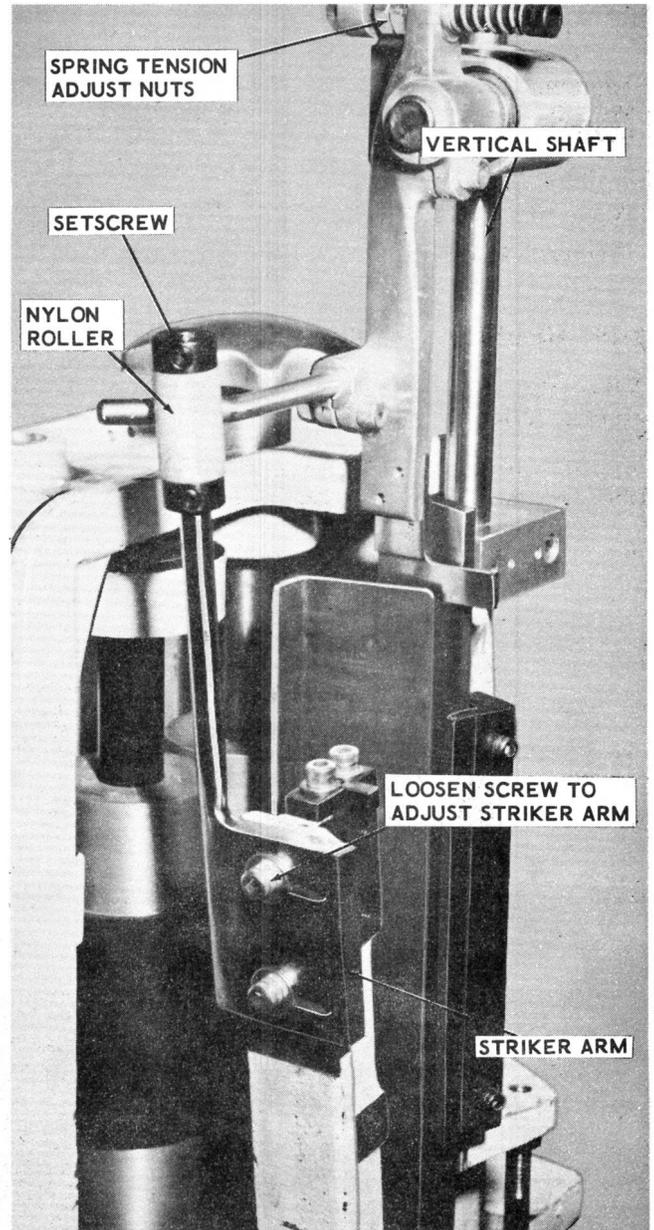
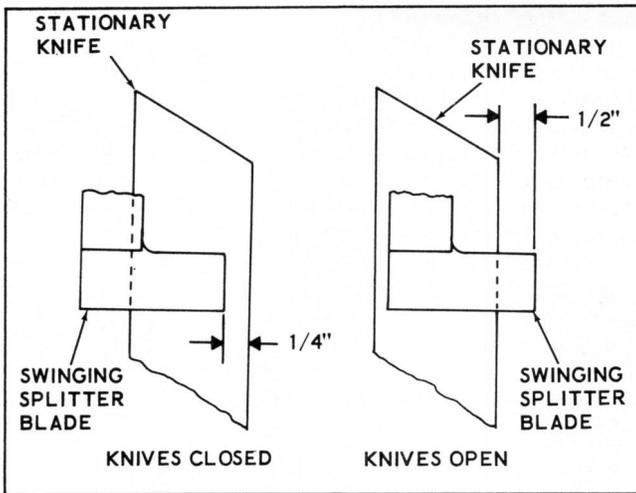

Figure 3-40. Swinging Splitter Blade
Figure 3-41. Positioning Swinging Splitter Blade
A swinging splitter blade mechanism (Figure 3-40) is attached above the feed roll mechanism to keep the top of the web separated while in the area of the web cutoff. When the movable cutoff knife is actuated to perform the cutoff operation, a nylon roller on a striker arm attached to the movable knife holder
blade to the vertical shaft (Figure 3-40) and move the swinging splitter blade mechanism up or down the vertical shaft as required until the bottom of the blade enters the top of the pouch approximately 1/4 inch. Tighten attaching screws.
b. Loosen spring tension adjusting nuts (Figure 3-40). Turn adjusting nut until spring pressure positions the end of swinging splitter blade 1/2 inch beyond the stationary cutoff blade. Tighten second adjusting nut to hold this position.
c. As the movable cutoff blade closes, the swinging splitter blade is moved backward out of the path of the knives. When the knives are completely closed, the swinging splitter blade must be 1/4 inch away from the cutoff knives (Figure 3-41). This clearance is adjustable by loosening two screws holding striker arm (Figure 3-40) and moving the striker arm left or right as required. When the 1/4 inch clearance is obtained, tighten screws to secure striker arm.
d. Check position of nylon roller (Figure 3-40) on striker arm. The shaft of the swinging splitter blade should ride in approximate center of nylon roller. Loosen two setscrews in collars and move nylon roller up or down on the striker arm until centered on shaft. Tighten setscrews.